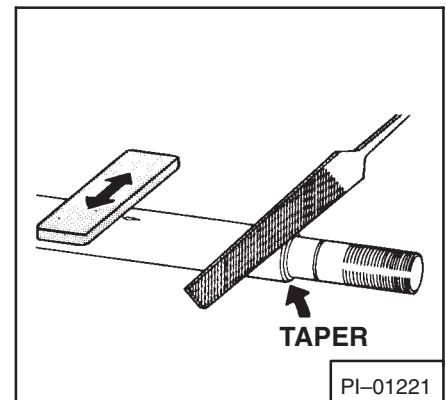

Fig. 74 Dressing Down Nicks
1. A nick on a cylinder shaft can cause seal damage in the cylinder head and external leaks. Occasionally check the shaft by running your hand up and down the length of it. This is particularly important when handling gravel, stone or scrap metal. Shaft inspection can detect nicks or scratches before they are large enough to damage the cylinder head seals. Carefully dress down any nicks or scratches on a cylinder shaft with a fine Carborundum stone (Fig. 74).
2. File or grind a slight bevel on the shoulder at the piston end of the shaft (Fig. 74). This will allow the seals to be installed over the shoulder without damaging them. Dress all the nicks of the shaft. Do not use a power grinder or a file for this purpose.